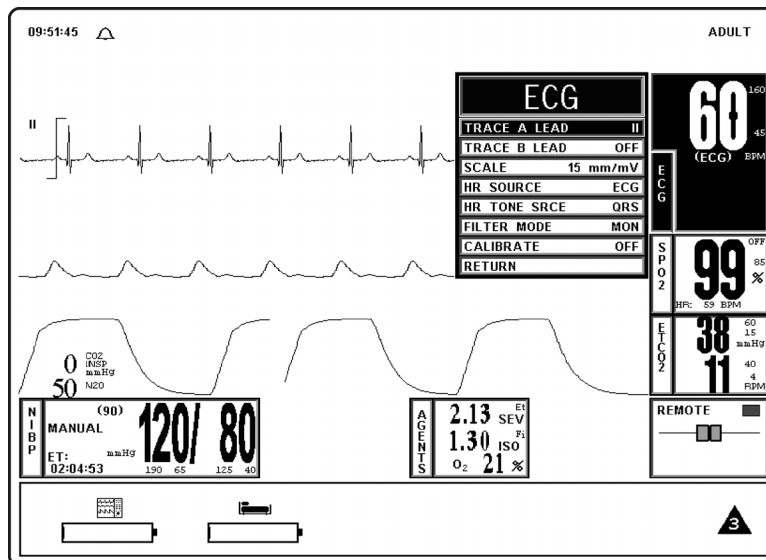

Figure 4-2. The ECG Menu
4.1.3 The ECG Menu. (See Figure 4-2) Selecting the ECG Menu-Select Icon brings up the ECG Menu. *This menu has a time-out feature. If no action is taken for approximately 60 seconds, the monitor will automatically return to the Normal Screen.*